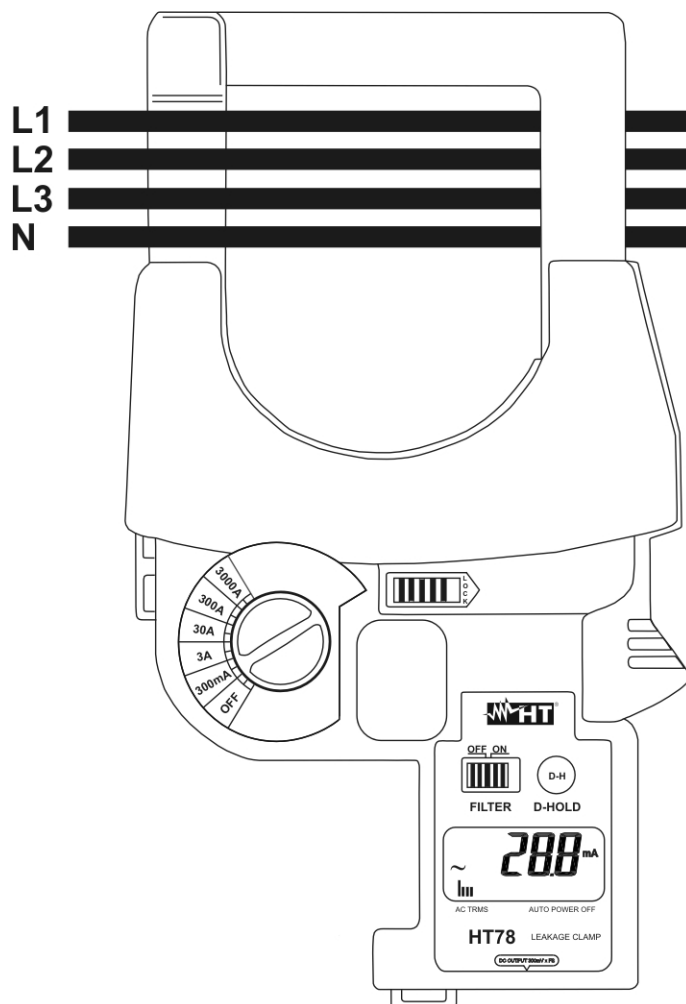

Fig. 5: Taking leakage current measurement on Three phase systems
- The cables L1, L2, L3 and N if use the **Differential** method as shown in Fig. 5 obtaining the result as addition of instantaneous values of the currents flowing in the wires